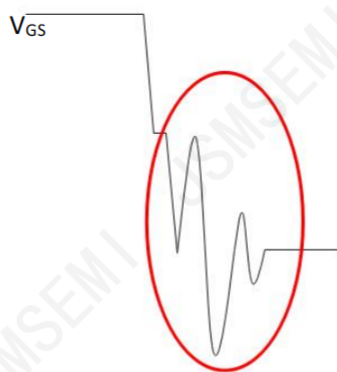

Figure 8-4 Grid ringing
- 1) Grid signal rings, causing MOS damage (as shown in Figure 8-4);